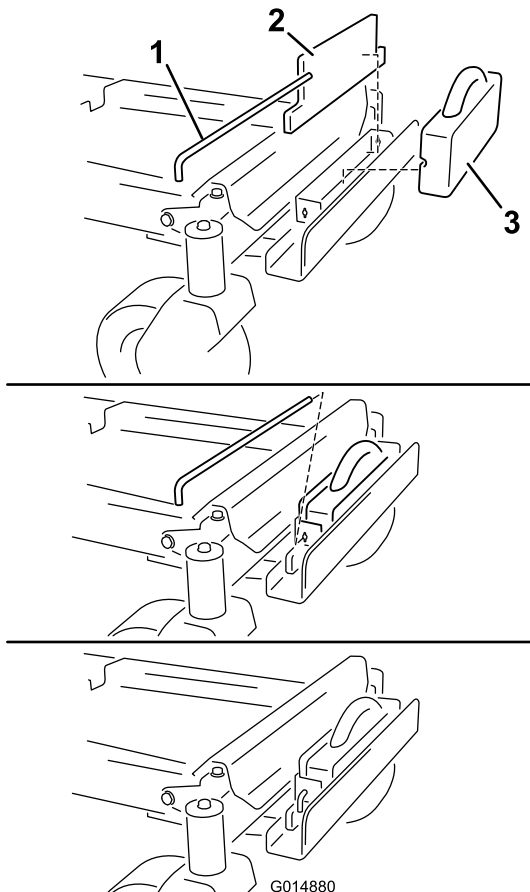

Figure 9
8. Install a flat weight to the weight bracket and move it rearward, flush with the bracket (Figure 9).
9. Install a suitcase weight in front of the flat weight (Figure 9).
10. Secure the weights to the weight bracket with a keyed-cross bar (Figure 9). Install the bar and rotate it 90 degrees downward to lock it in place.